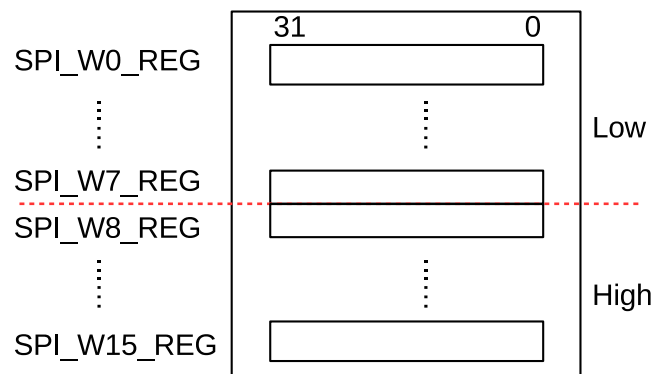

Figure 27.5-1. Data Buffer Used in CPU-Controlled Transfer
GP-SPI2 provides 16 x 32-bit data buffers, i.e., SPI_WO_REG ~ SPI_W15_REG, see Figure 27.5-1.
- **SPI Buffer:** `SPI_WO_REG ~ SPI_W15_REG`, see Figure 27.5-1. The data transferred in CPU-controlled mode is prepared in this buffer.